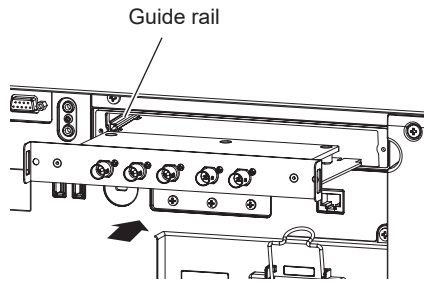

Fig. 2
2) Install the Function Board in the projector. (Fig. 2)